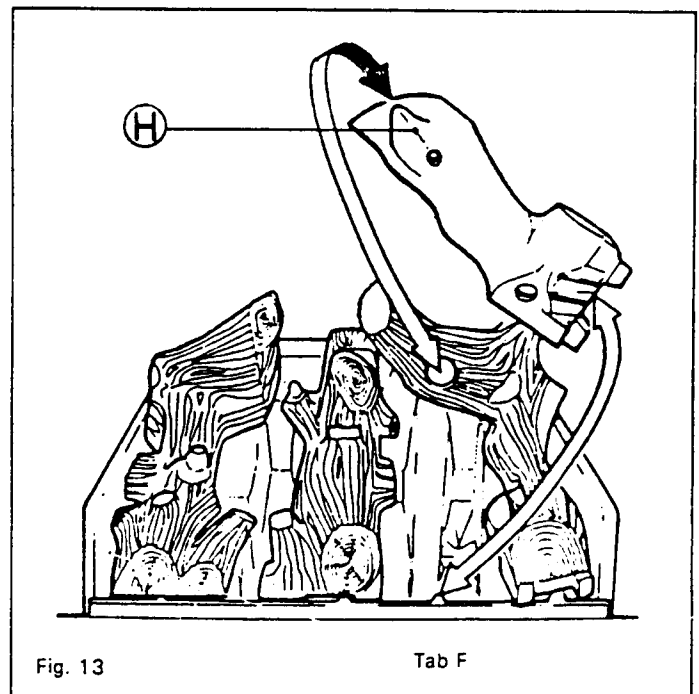

Fig. 13
- (iv) (Refer to Fig. 13). Place log No. 4 between logs 2 and 3. Locate the groove (situated under the front edge of the log) onto tab 'F' on the front support rail. Locate the projection 'H' (situated under the rear of the log) into the hole in log No. 3.